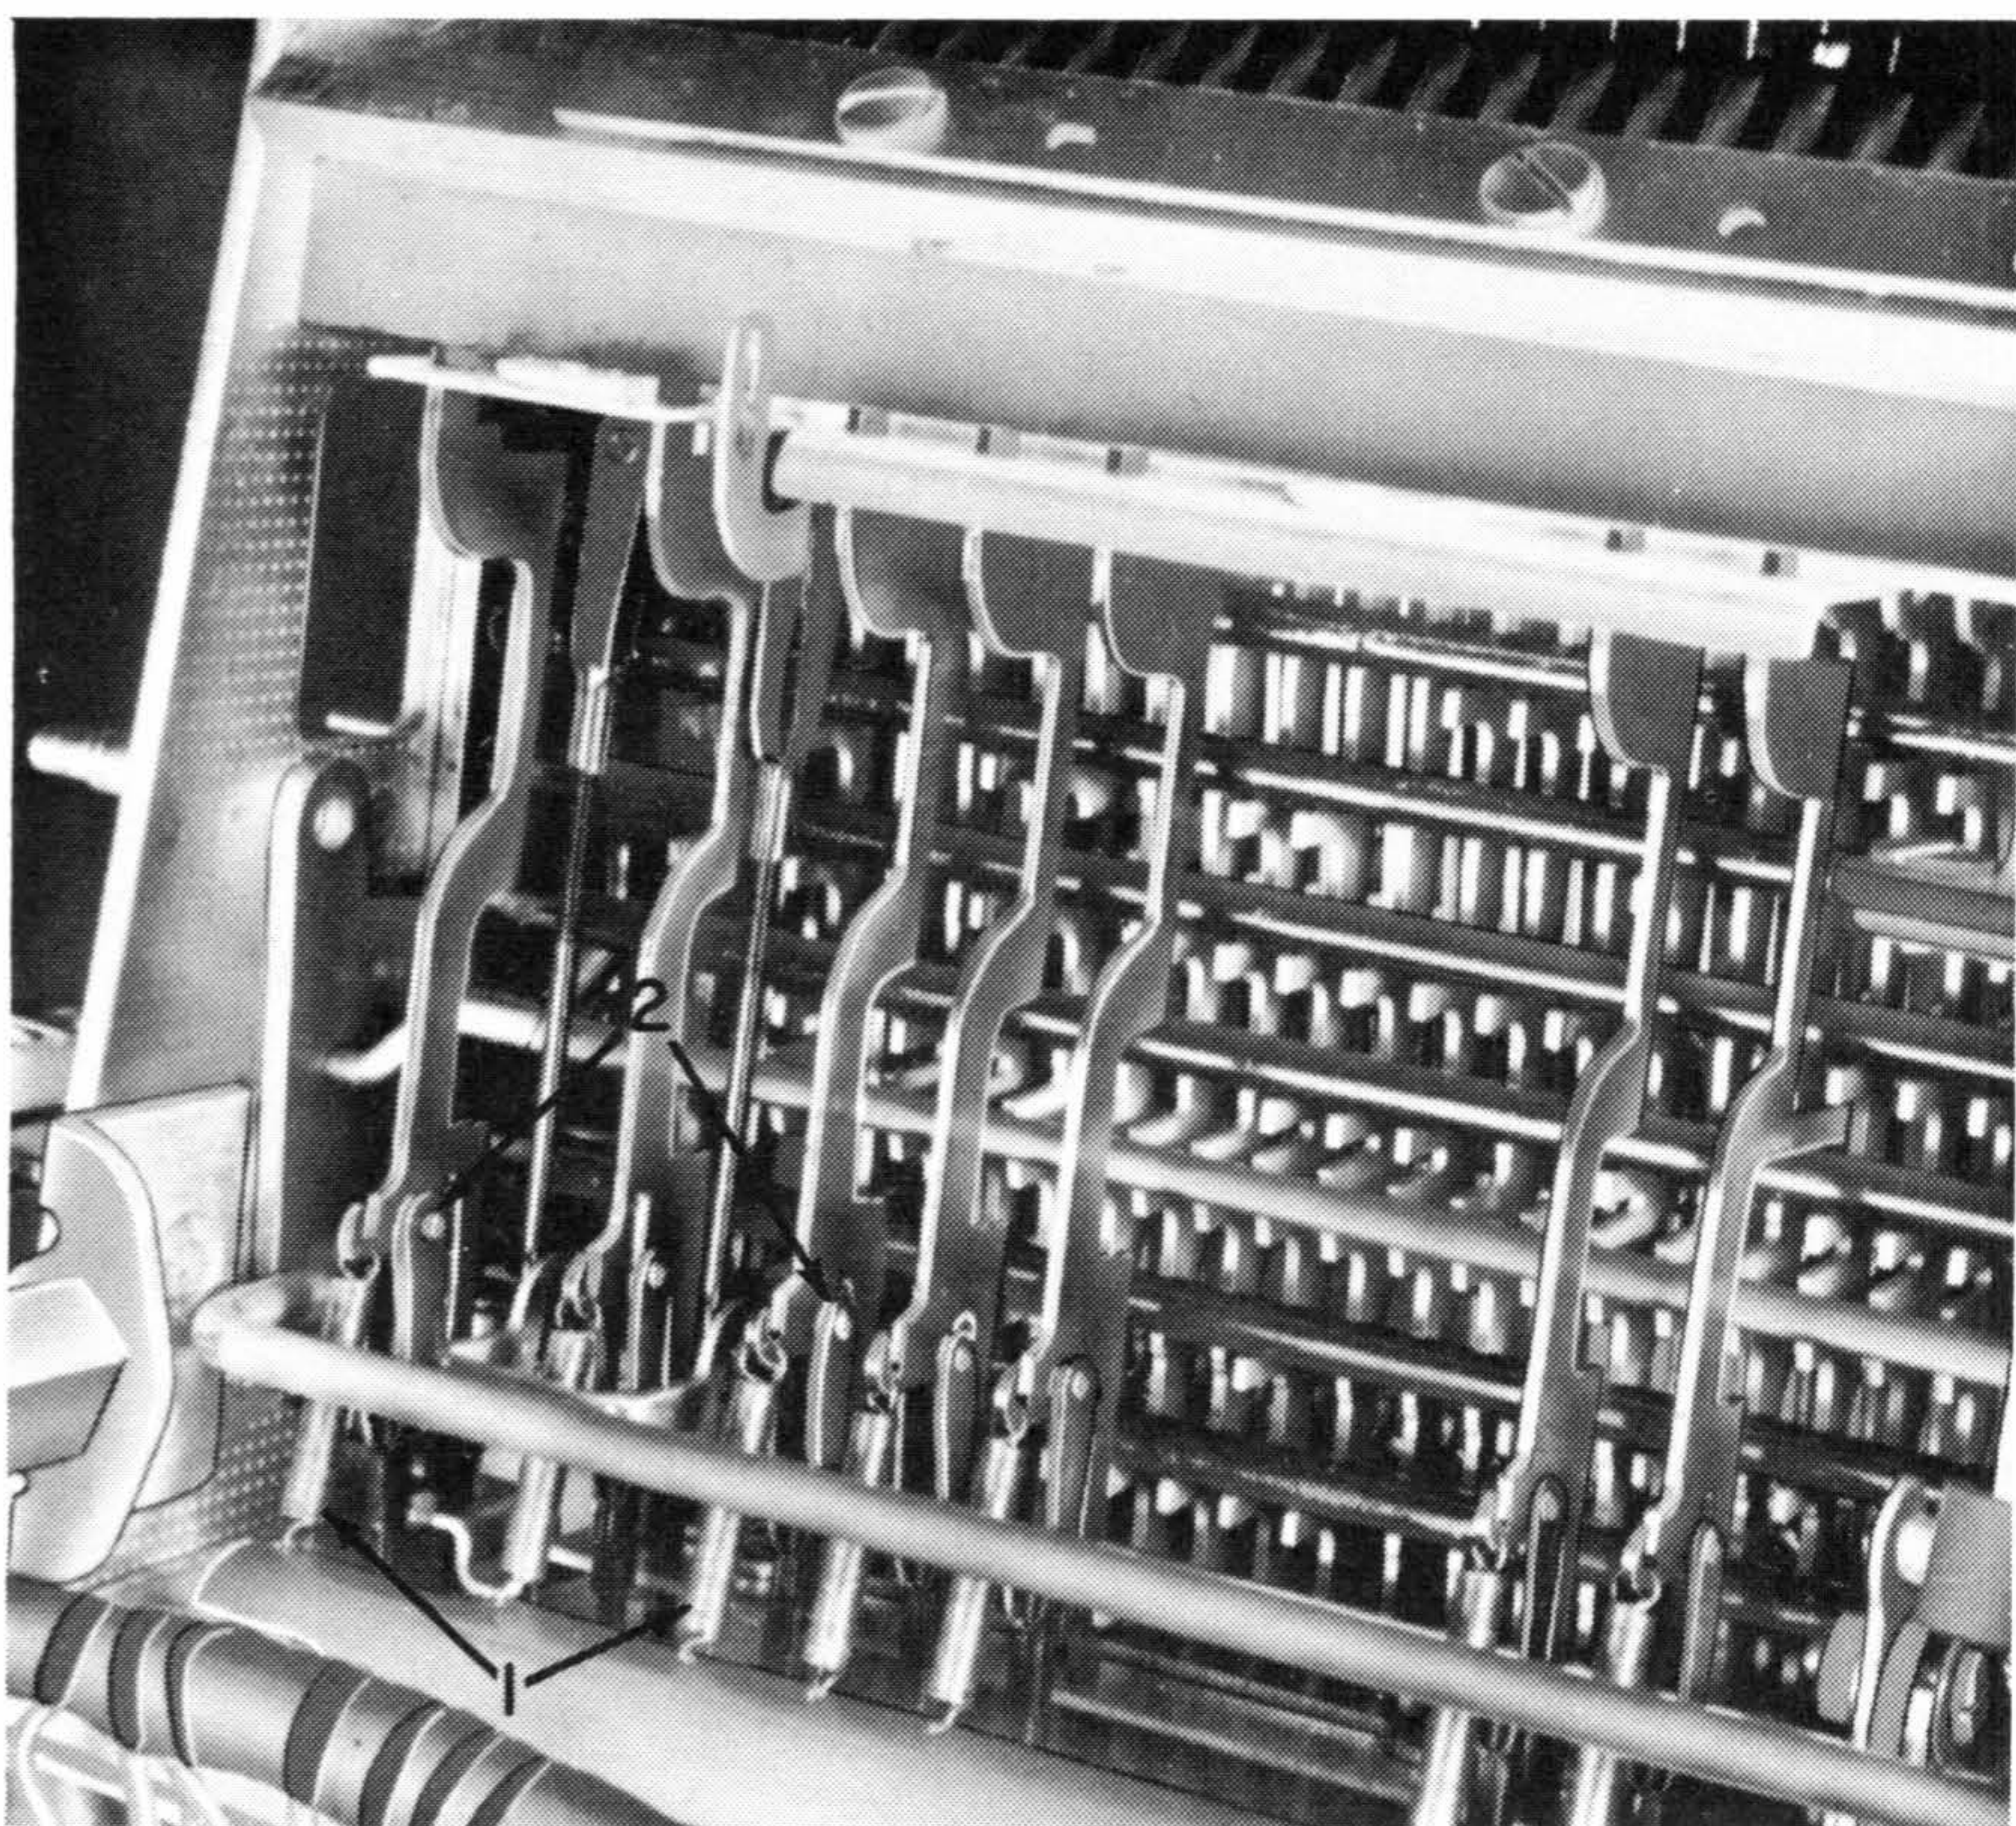

Figure 25. Tilt Selection Differential Removal
3. Remove the springs from the tilt interposers (#1, Figure 25).
4. Disconnect the clevises and remove them from the links (#2, Figure 25).